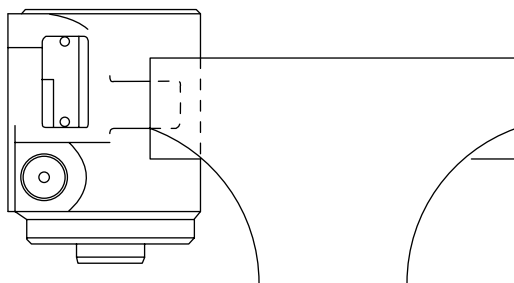

Figure 5
- 19 Clamp the housing in a vise as shown in Figure 5. Use just enough clamping force to hold the housing securely.